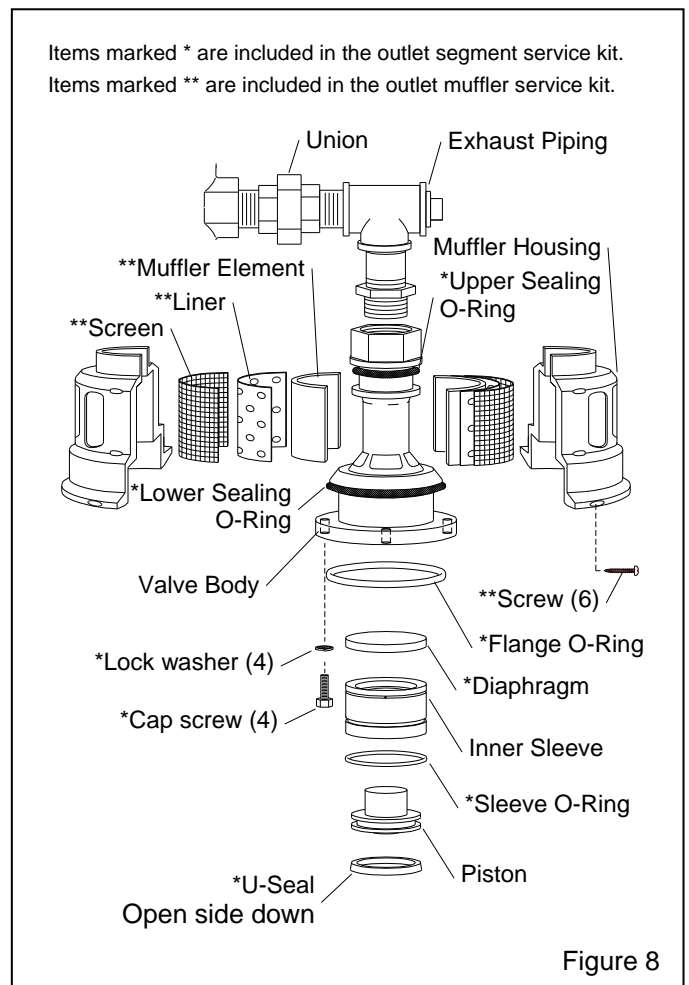

Figure 8
Ref. Figure 8**
**6.4.8** Lubricate the u-seal with a silicone-based lubricant, and place the u-seal into the groove in the piston. The open side of the seal must face the bottom of the piston, as shown in Figure 8.
**6.4.12** Slide the piston and sleeve assembly into the valve body, the piston faces away from the bottom of the body, as shown in Figure 8.
## 6.5 Exhaust Muffler, Figure 8